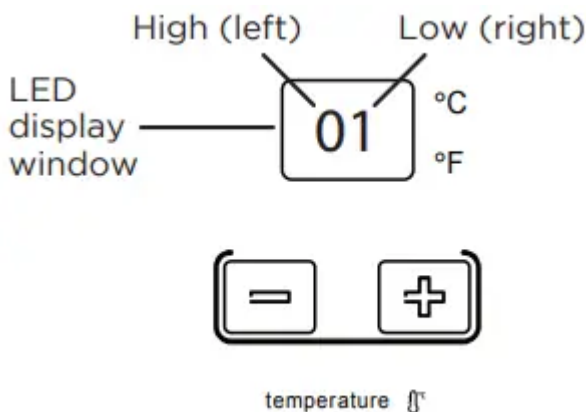

Fig. 5
- Press the up (+) and down (-) buttons together for 3 seconds to activate the dip switches configurations by panel control (see Fig. 5).
- Display function settings with 2 digitals in LED display window, high (left) for dip switches, low (right) for functions (see Fig. 5).